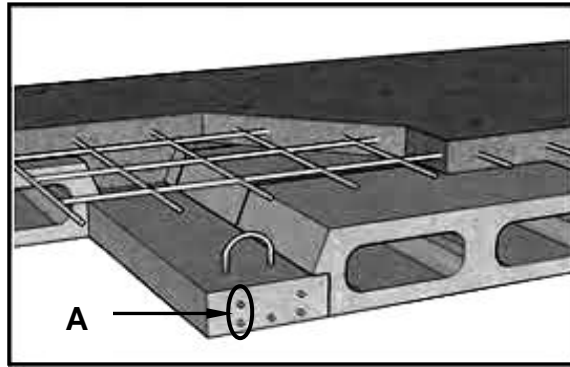

FIGURE 6.3
6.3 FIGURE 6.3 below shows a type of floor construction.